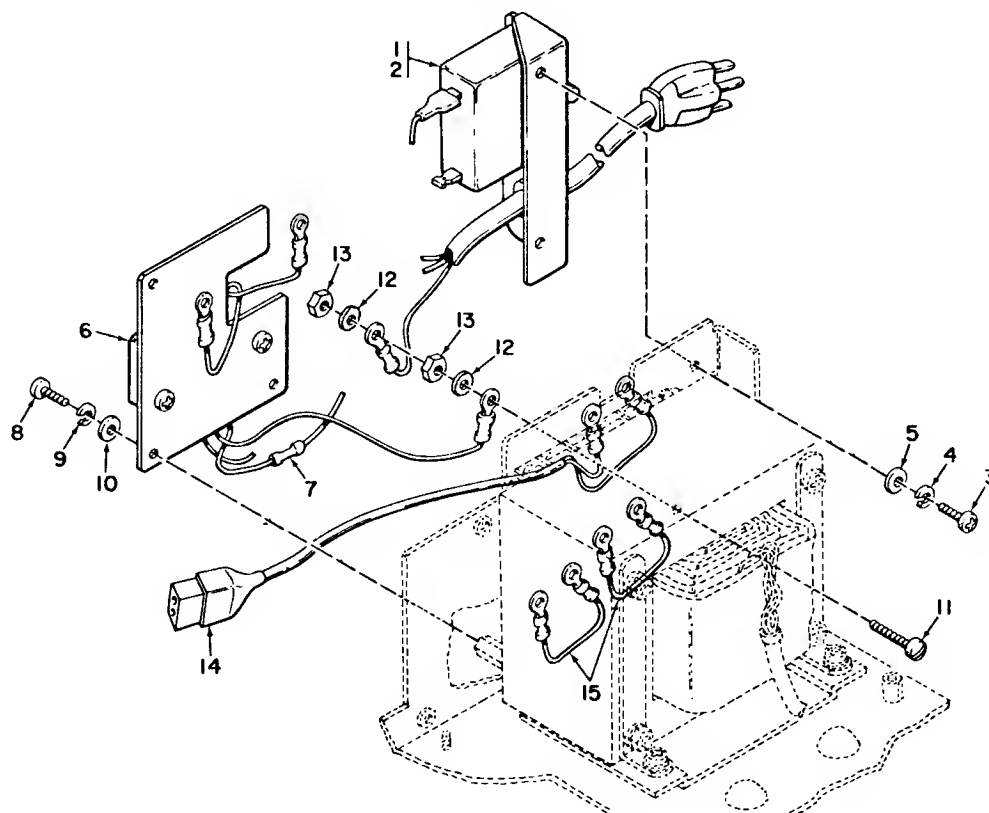

Figure 3-8G. KIT, PRIMARY VOLTAGE ASSEMBLY
3.15 PRIMARY VOLTAGE ASSEMBLIES (Figure 3-8G)